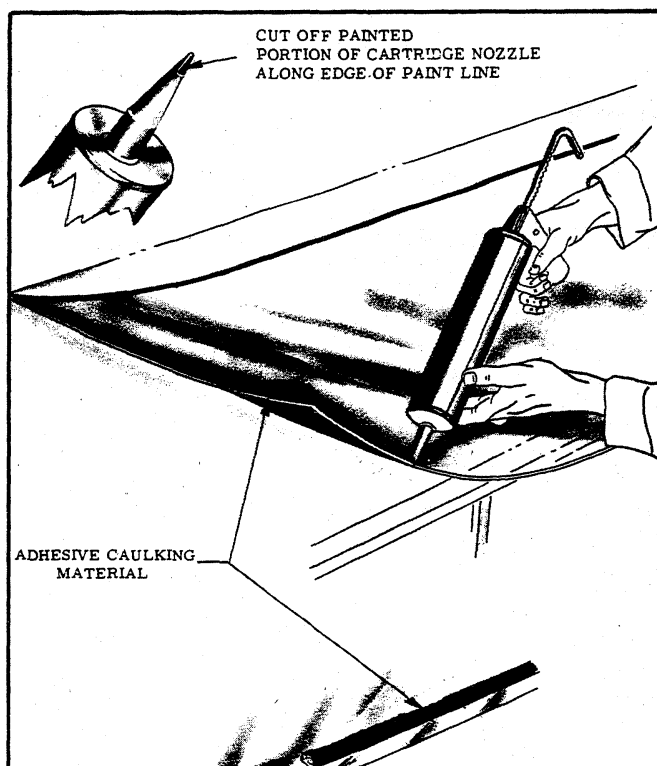

Fig. 60—Applying Caulking Material to Glass
17. Carefully apply a smooth continuous bead of caulking material on inside surface of glass next to edge completely around glass (fig. 60). Caulking material should be approximately 1/4 inch wide at the base and form a pyramid 3/8 inch high. If during application the pyramid collapses, wait about 2-3 minutes for material to set up. If an air bubble is encountered in material back up the applicator and apply sufficient material to fill void and to dispense the bubble before continuing.